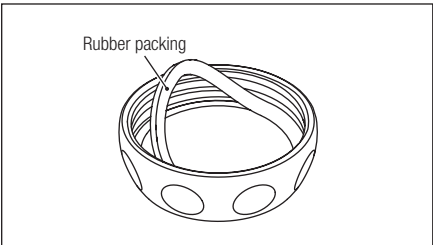

Fig. 13
- 2) Remove the rubber packing and disassemble the powder case cap. (Fig. 13)